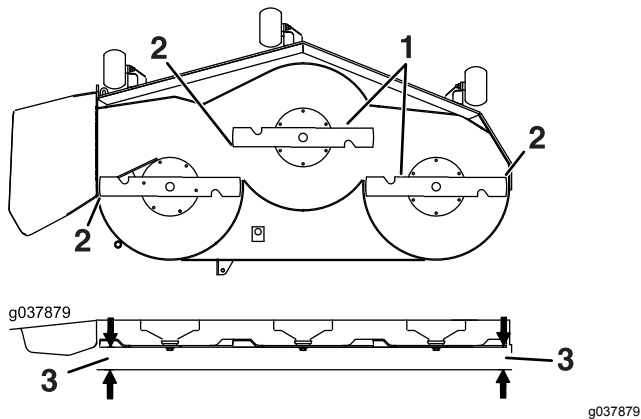

Figure 82
6. Measure between the blade tip and the flat surface (Figure 82). If both measurements are not within 5 mm (3/16 inch), adjust the leveling; continue with this procedure.
13. Carefully rotate the blades side to side (Figure 82).